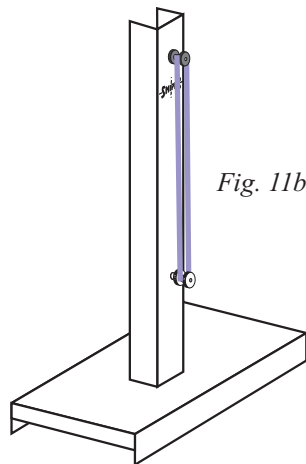

Fig. 11b
3. The line can be stored as shown in fig. 11b.